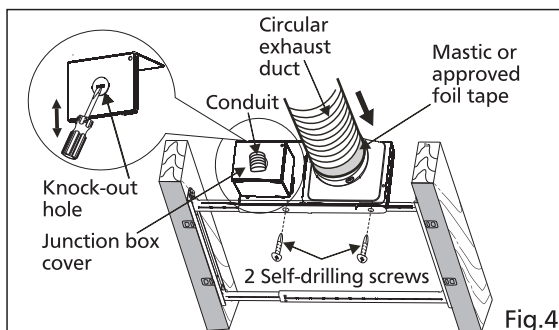

Fig.4
4. Remove junction box cover and secure conduit or stress relief to junction box knock-out hole. (Fig.4)
5. Install the circular exhaust duct and secure it with clamps, or ties and seal it with mastic or approved foil tape. (Fig.4)
6. Install the adaptor to Flex-Z Fast™ bracket by using 2 self-drilling screws. (Fig.4)